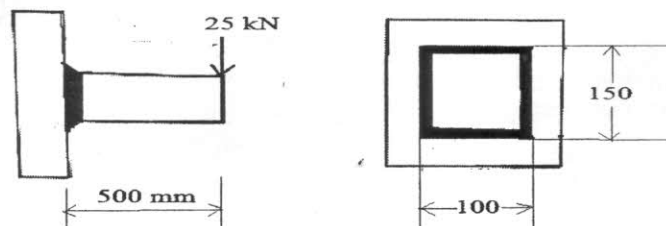

Figure. Q4(a)
4. a) Determine the size of weld required for the joint shown in Figure. Q4(a), if the allowable shear stress in the weld is limited to 80 MPa.